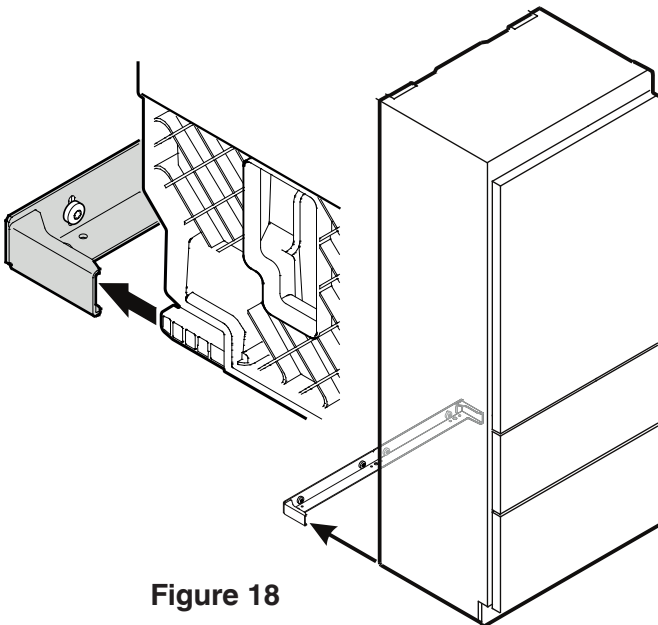

Figure 18
4. Move the appliance slowly into the recess until the appliance back slides into the anti tipping bracket (**Figure 18**).